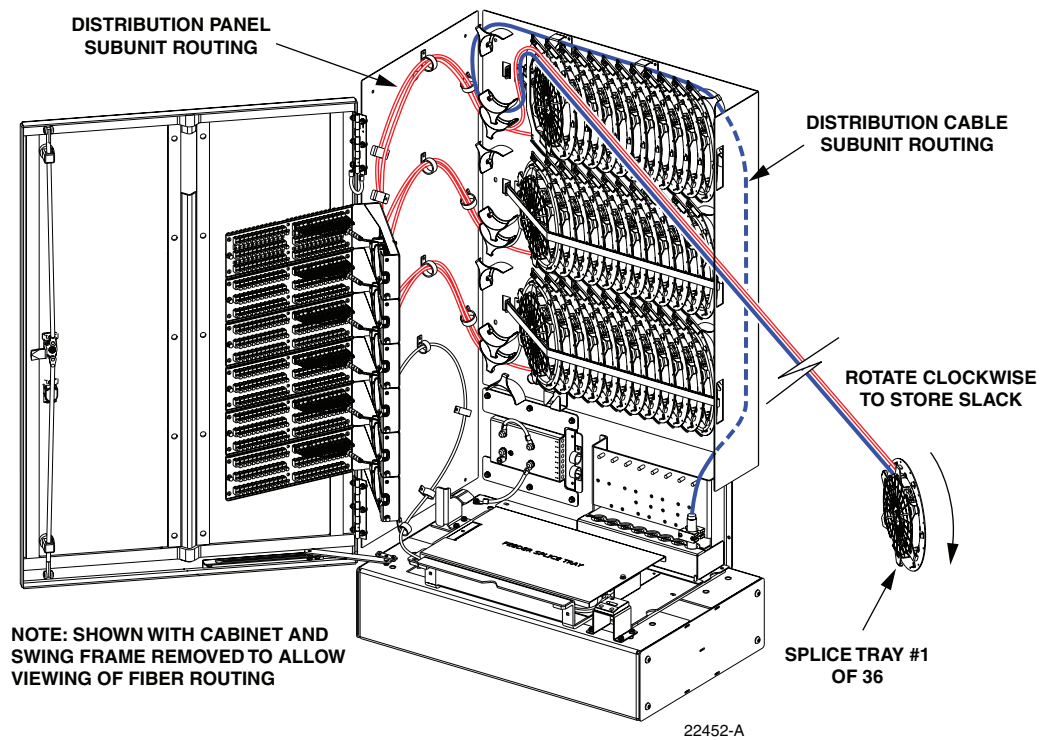

Figure 39. Store Excess Slack
16. Replace the splice wheel top cover and then turn the splice wheel in a clockwise direction to roll up the excess slack as shown in Figure 39